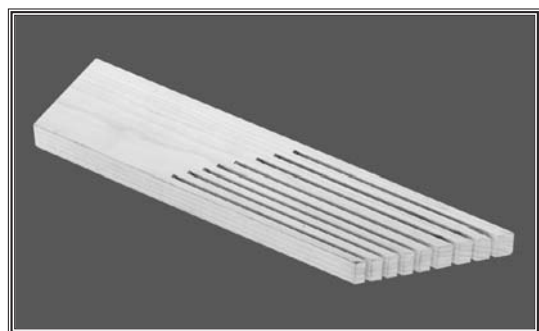

Figure 90. Anti-kickback featherboard.
- **Featherboards** similar to the one in **Figure 90** make good anti-kickback devices. To use these, they must be clamped to the table or fence. The angled ends and flexibility of the fingers allow the workpiece to move in one direction and lock up if the workpiece moves backwards.